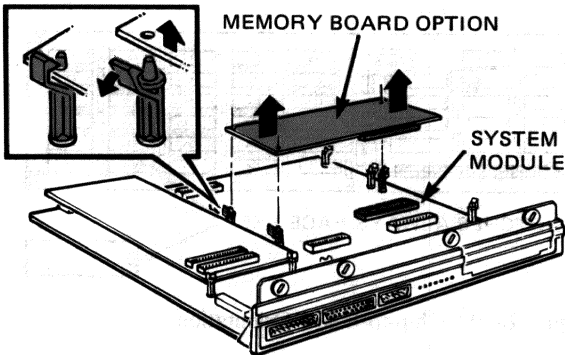

Figure B-9 Memory Board Option Removal
B.2.2.3 Remove the Memory Board – Set the power switch to 0 (off), unplug the power cord, and remove the system module, as described in Paragraph 5.4. Press outward on the three standoffs and remove the memory board from the system module as shown in Figure B-9.